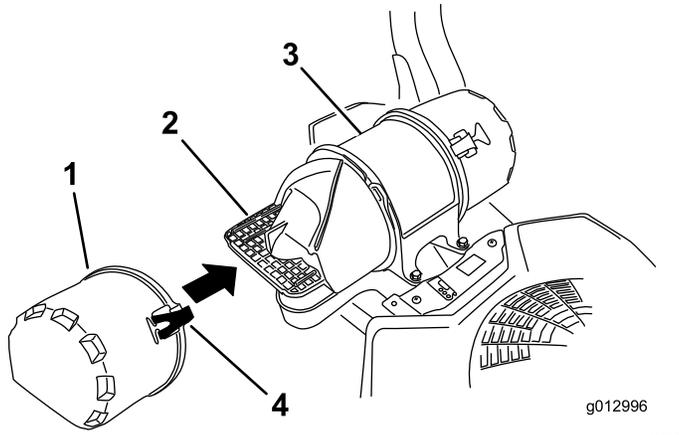

Figure 55
3. Release the latches on the air cleaner and pull the air-inlet cover off the air-cleaner body (Figure 55).
5. Install the air-inlet cover and secure it with the latches (Figure 55).